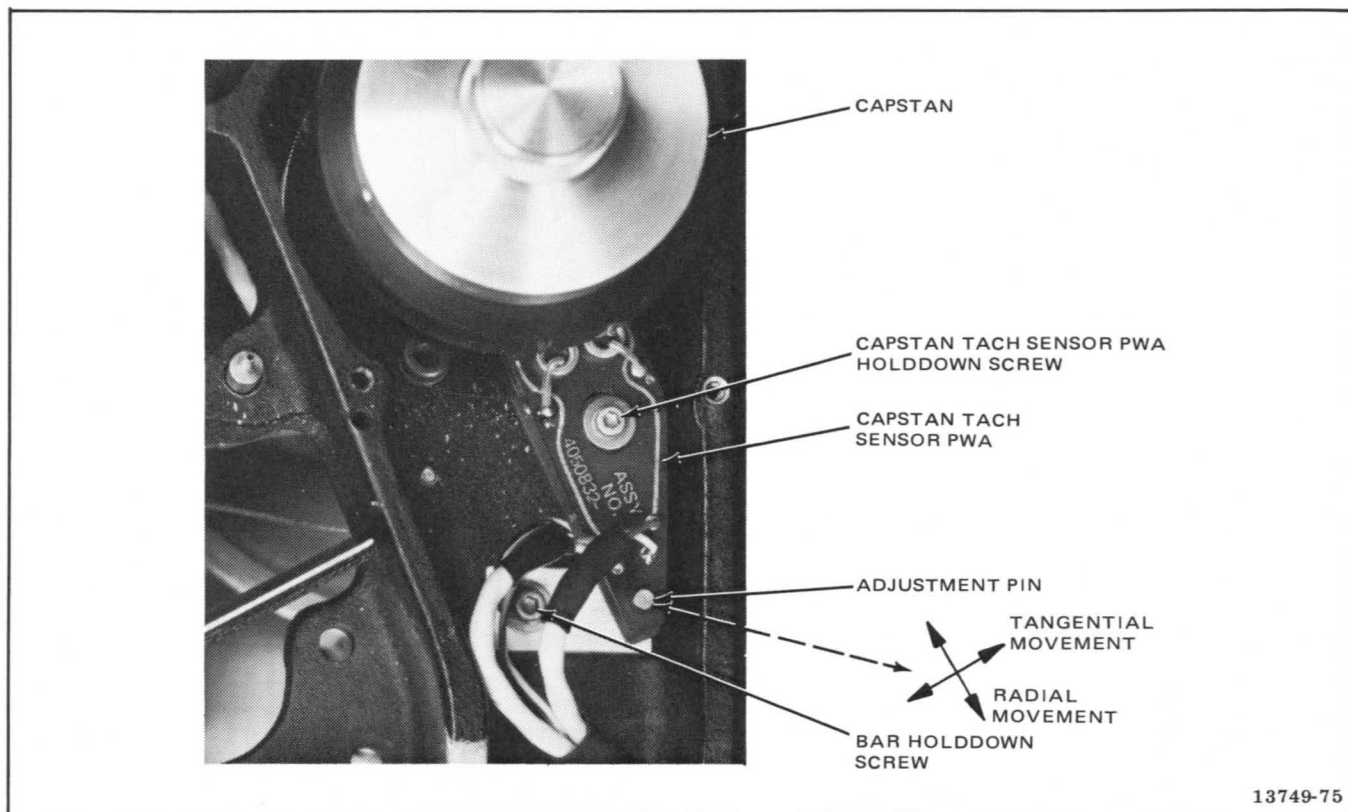

Figure 5-19. Capstan Tach Sensor Adjustment
5-59. Capstan Tach Sensor. Use the following procedures to check the operation of the capstan tach sensor PWA (Figure 5-19) and capstan tach LED PWA (Figure 5-47) and, if required, adjust the position of the capstan tach sensor PWA (steps 13 through 29). Normally an adjustment is required if the capstan motor "runs away" or if the capstan tach sensor PWA or capstan tach LED PWA is replaced. Proceed as follows:
17. Loosen the two holddown screws shown in Figure 5-19, but so there is still some tension against the lock washers.
18. Carefully move adjustment pin (Figure 5-19) tangentially (left and right) and radially (in and out) to the capstan to obtain maximum output at TP5 and TP6.
24. After correct phase is established, first tighten the bar holddown screw, and then tighten the capstan tach sensor PWA holddown screw (Figure 5-19).